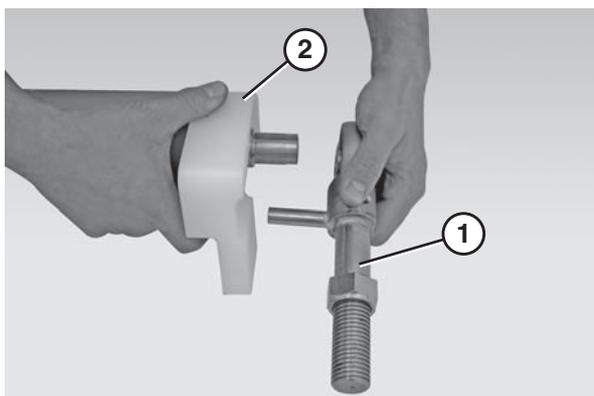

Figure 65
- Remove the bearing shaft (Figure 65, item 1) and both pinch guards (Figure 65, item 2).